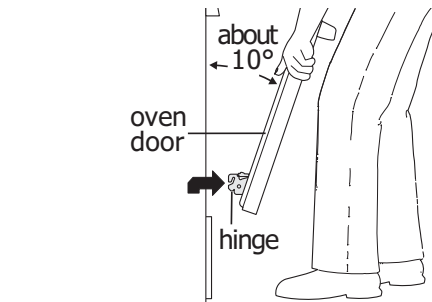
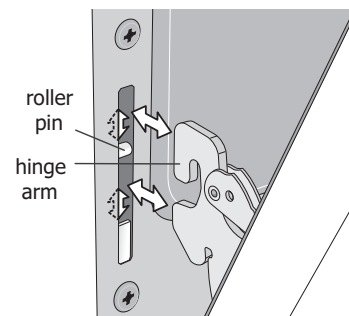

Figure 24: Holding door for removal
Figure 25: Replacement and location of hinge arm and roller pin
3. Firmly grasp both sides of oven door along the door sides. Do not use the oven door handle (See Figure 24).
5. Lift the oven door hinge arms over the roller pins located on each side of the oven frame (See Figure 24).
1. Firmly grasp both sides of oven door along the door sides. Do not use the oven door handle (See Figure 24).
2. Holding the oven door at the same angle as the removal position, seat the hook of the hinge arm over the roller pins located on each side of the oven door frame (See Figure 24 and Figure 25). The hook of the hinge arms must be fully seated onto the roller pins.